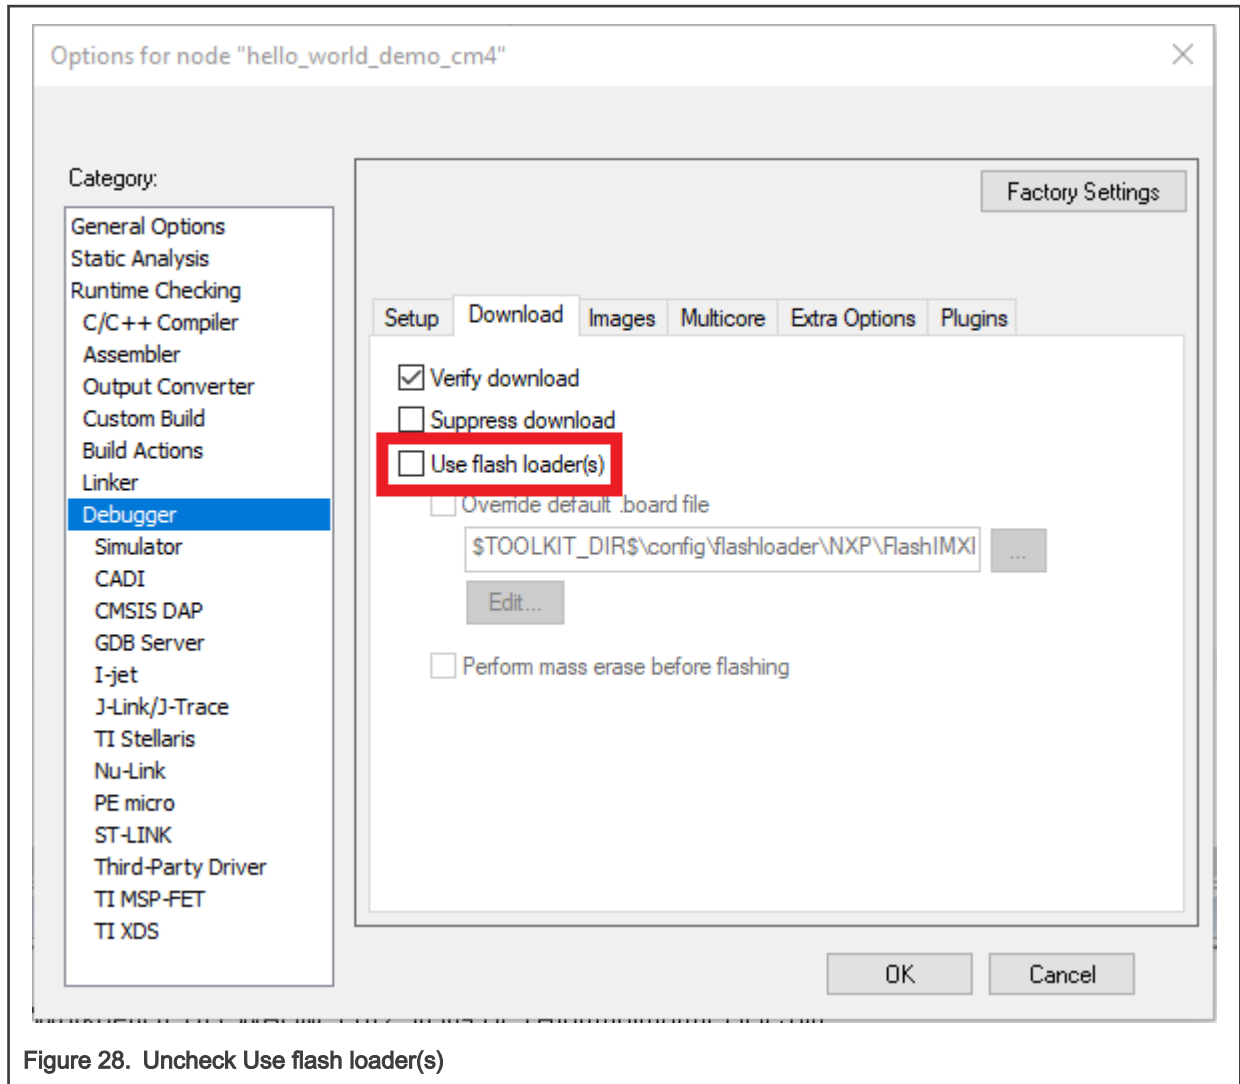

Figure 28. Uncheck Use flash loader(s)
- When downloading the `cm4` project, uncheck **Use flash loaders**, as shown in Figure 28, and change the contents of command line options as below: